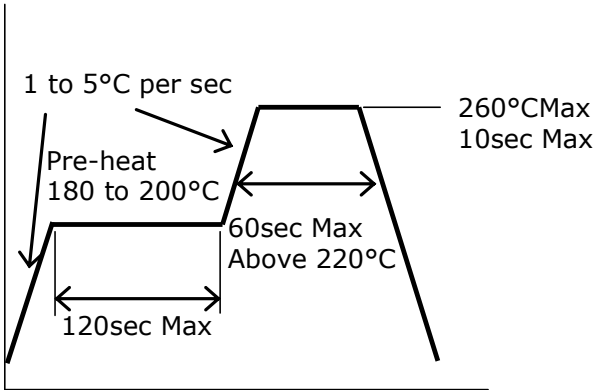

Figure 9. Recommended Reflow Soldering Condition (Lead-free Solder)
- Using the recommended reflow soldering conditions (See Figure 9 to the left) as a reference, modify if necessary, the recommended reflow conditions specified by the manufacturer of the solder paste being used.